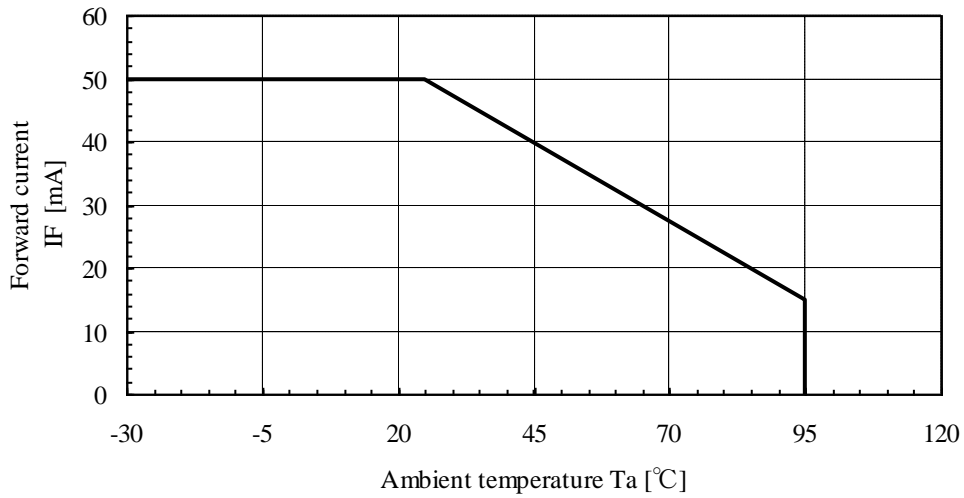

Fig.2 Collector power dissipation vs. ambient temperature
<Fig 2>
- 2) The pads are attached at the top and the bottom of the trays and also inserted between the trays. <Fig.2>